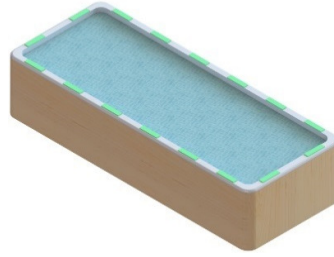
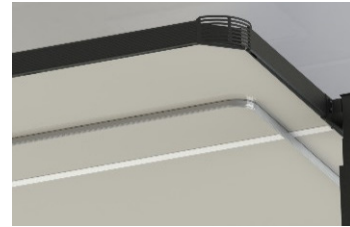

Figure 1
Figure 2
1. Lift the cover and remove the seal underneath the cover surface (Figure 2). Once this is complete put the green foam spacers on the swim spa (Figure 1).